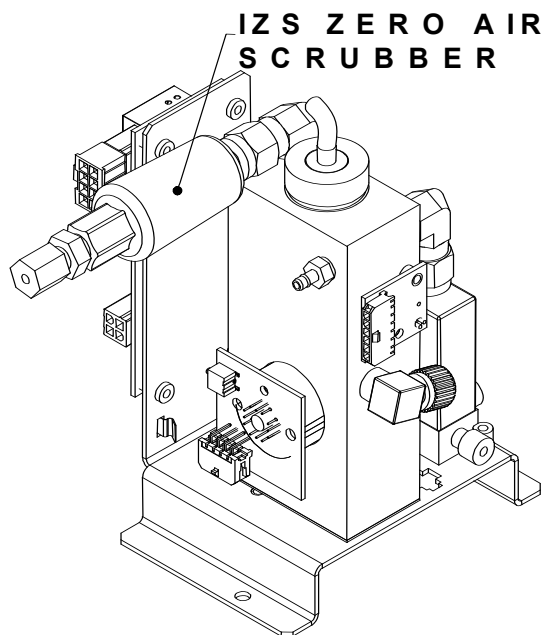

Figure 13-6: IZS O3 Generator Zero Air Scrubber Location
3. The IZS zero air scrubber is attached to the brass elbow inlet fitting on the top of the O3 generator assembly. See Figure 13-6.